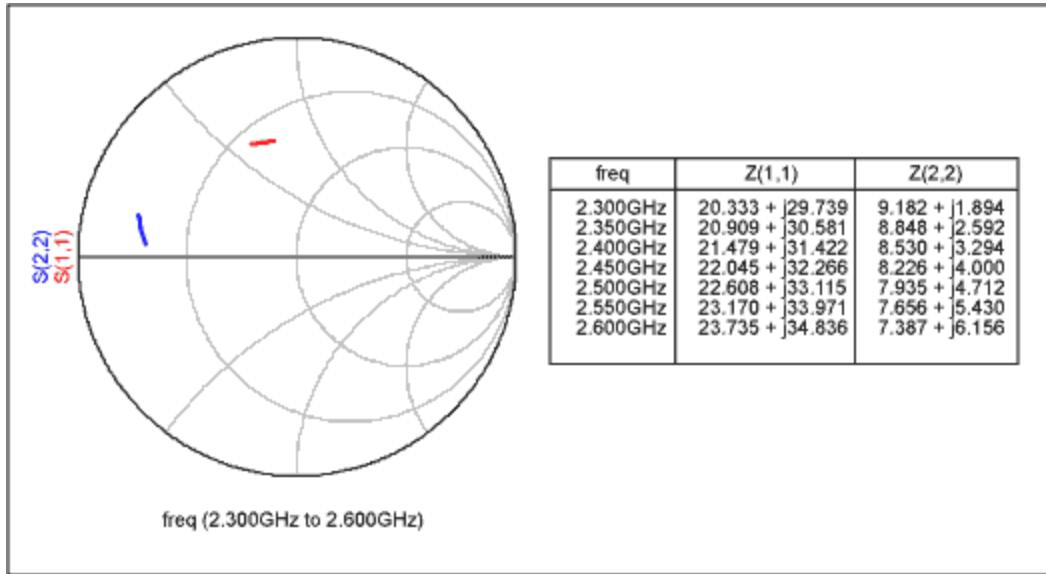

Figure 5. Optimum source and load impedance.
**Figure 5** shows the simulated optimum source  $Z(1,1)$  and load  $Z(2,2)$  impedance from the actual layout.  $Z(1,1)$  and  $Z(2,2)$  should be used as the starting point for optimum source and load impedances.